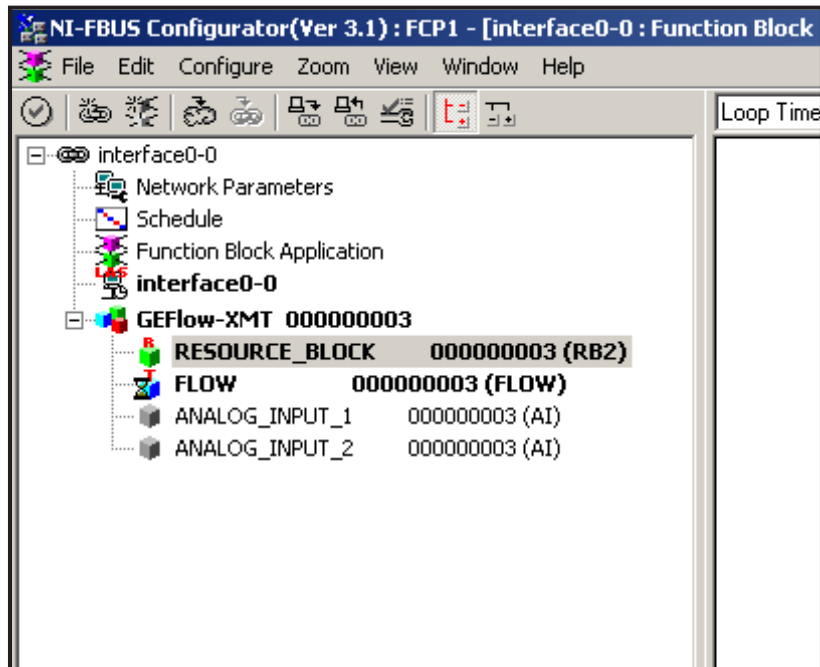

Figure 39: Configuration Utility Setup Example
Figure 39 shows the Configuration Utility with a flowmeter on the network (GE Flow-XMT).
1. Double click on the AI block for which you wish to set the units (ANALOG_INPUT_1 or ANALOG_INPUT_2 in the tree under GEFLOW-XMT; see Figure 39 on page 114).
1. Double click on the FLOW transducer block (in the tree under GEFLOW-XMT; see Figure 39 on page 114).